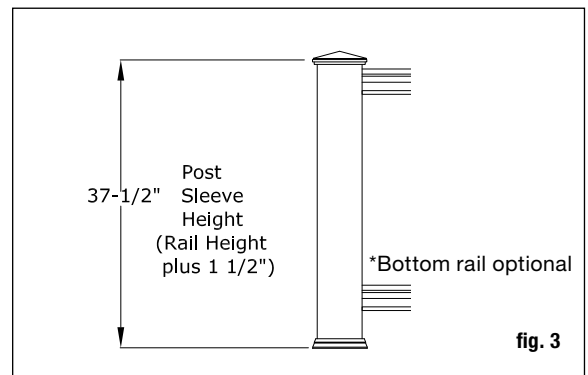

fig. 3
Step 5: Trim 4x4 post sleeves to length if you plan to use a post cap. Post sleeves should be a minimum of 1-1/2" longer than the railing height (fig. 3). Example: For a 36" railing, trim post sleeves to a minimum of 37-1/2", or longer if desired. Slide a trimmed post sleeve over each 4x4 railing post. Use shims as needed to create a snug fit. Slide a post base trim over each post sleeve.